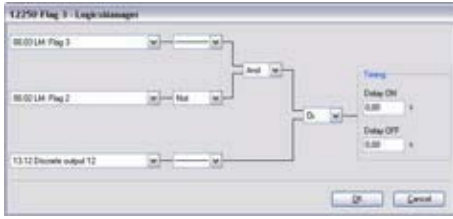

Fig. 169: LogicsManager function "Flag 3"
4. ➤ Configure the LogicsManager function "Flag 3" as shown in (Fig. 169).